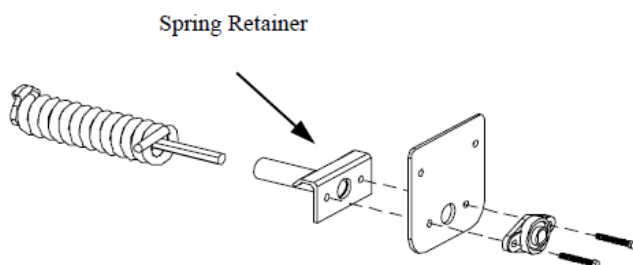

figure 14
STEP 1: Assemble the spring, shaft, spring retainer, and spring plate, see *figure 14*.